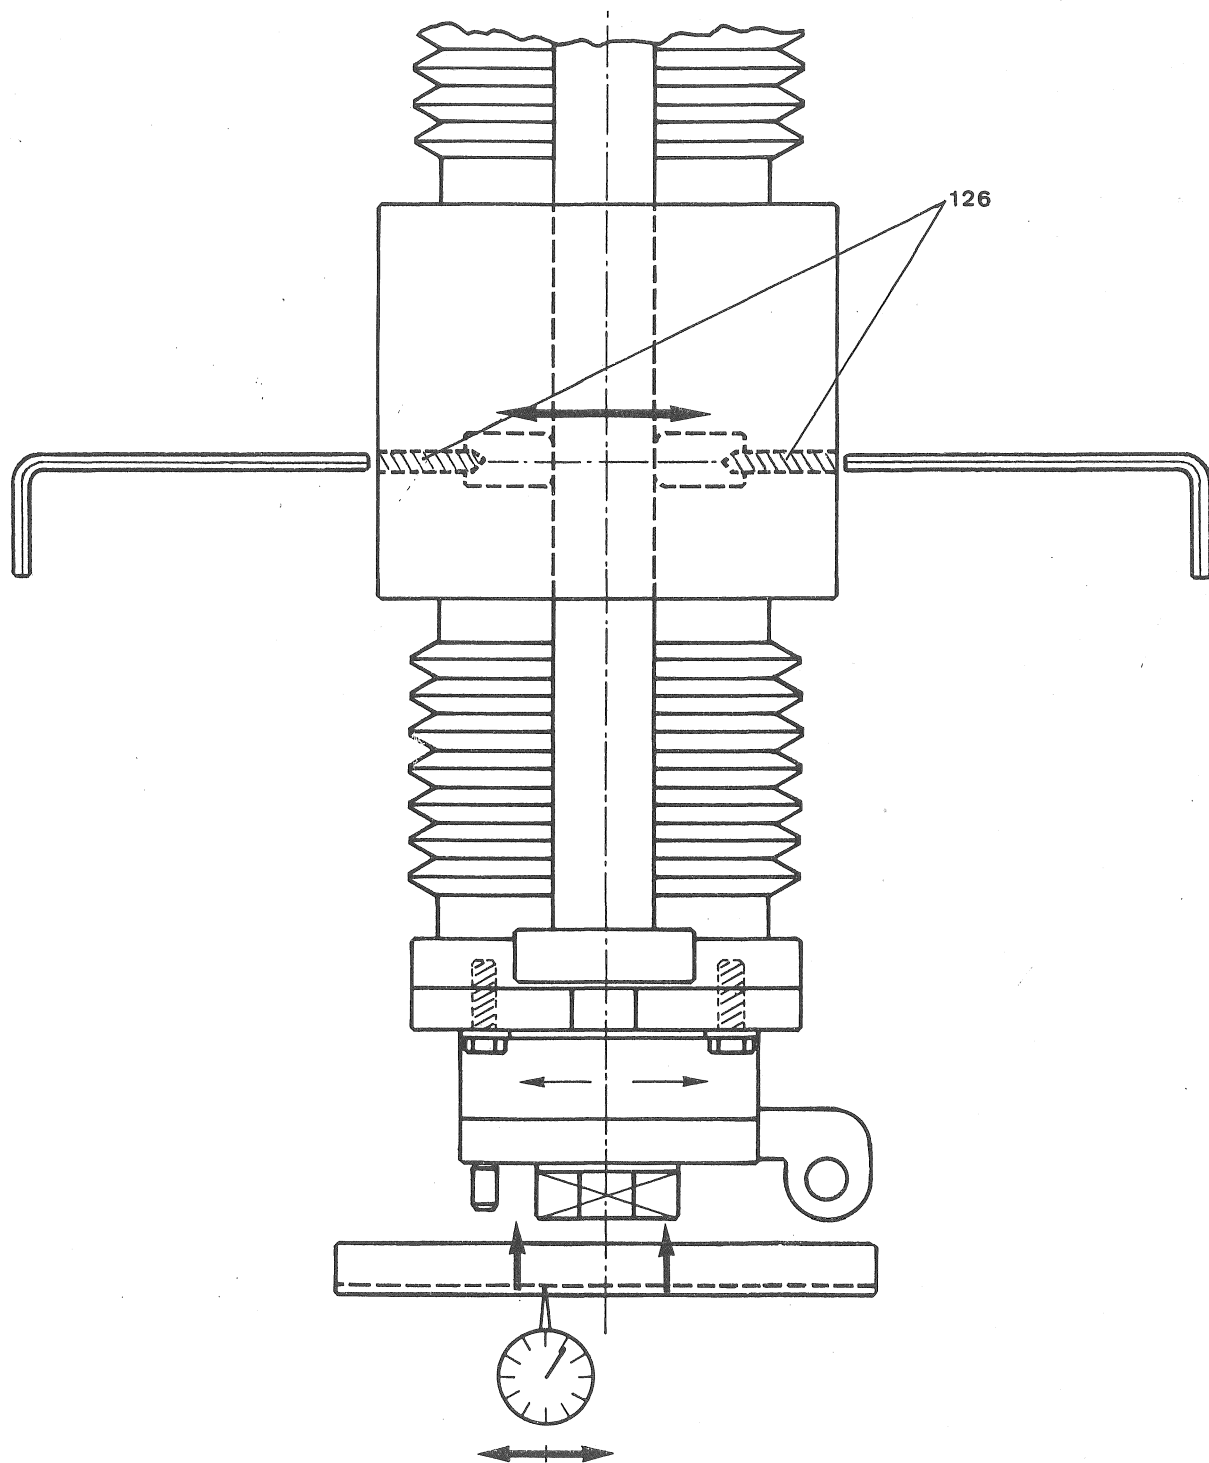

Fig 20
12.14 ANGULAR SETTING OF THE MAGNETIC CHUCK (fig. 20)